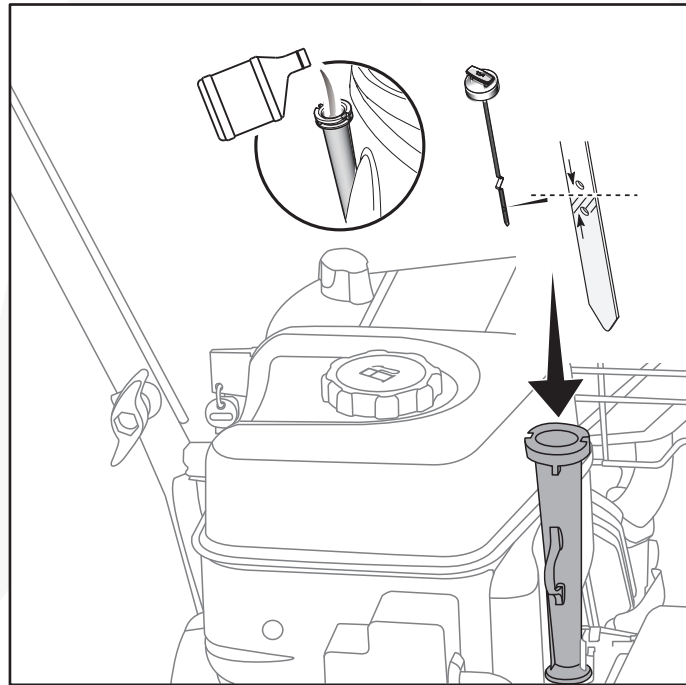

Fig. 7
2. Remove the engine oil dipstick and clean with a cloth. (Fig. 7)